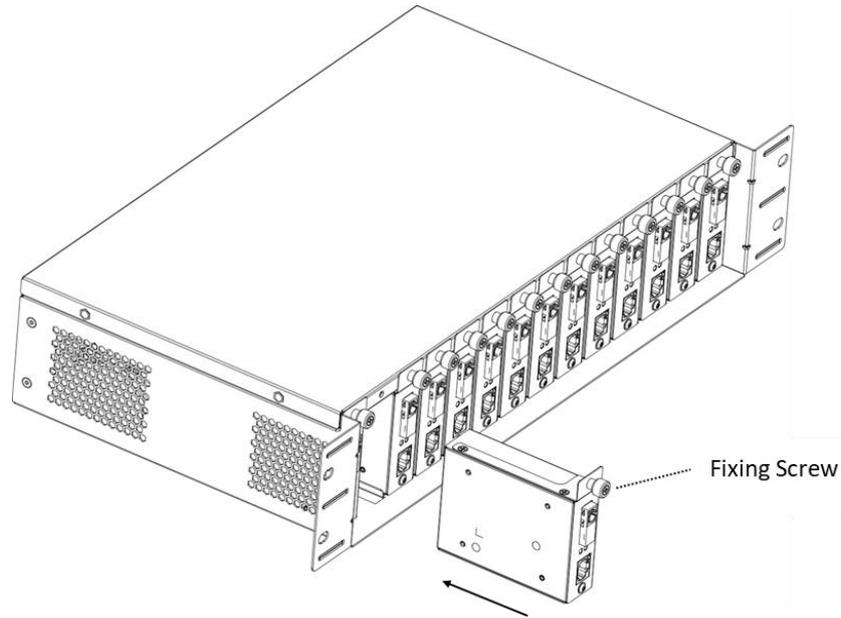

Figure 2-2 Install the Fiber Optical Transceiver into the Chassis
Step 5 Slide the fiber optical transceiver into the chassis, as shown in Figure 2-2.